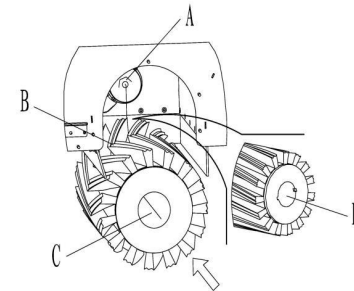

Figure 10
11. The bristles of the new main brush must be bent as shown (Figure 10).
12. Install a new master brush (C, Figure 10) and ensure that the D and the associated drive hub (A) fit.